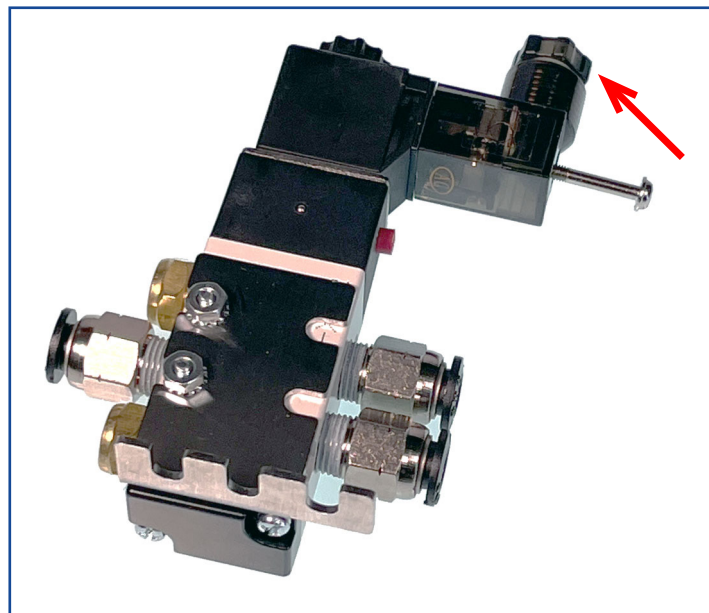

Figure 11 - Reverse housing and reassemble
6. Reverse the housing so that it points away from the solenoid manifold (Figure 11).